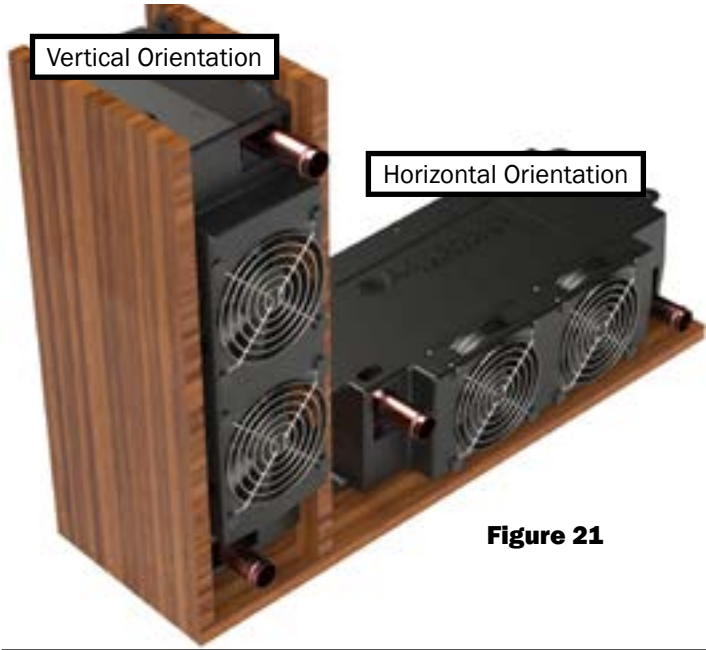

Figure 21
- Cozy heat exchangers can be mounted in one of two configurations: either flat on the ground, or vertically. Reference Figure 21.